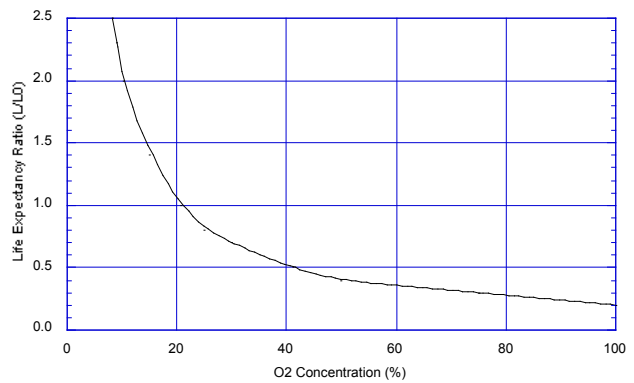

Fig. 9a - Relationship of life expectancy vs. O₂ concentration (L₀ = life at 20.7% O₂)
Figure 9a shows the relationship between life expectancy and O₂ concentration for SK-25F. The Y-axis indicates the ratio of life expectancy in a given O₂ concentration (L) to life expectancy at 20.7% O₂ (L₀). The greater the O₂ concentration, the shorter the life expectancy. The influence of atmospheric pressure on life expectancy is estimated based on the O₂ concentration in a given atmospheric pressure.